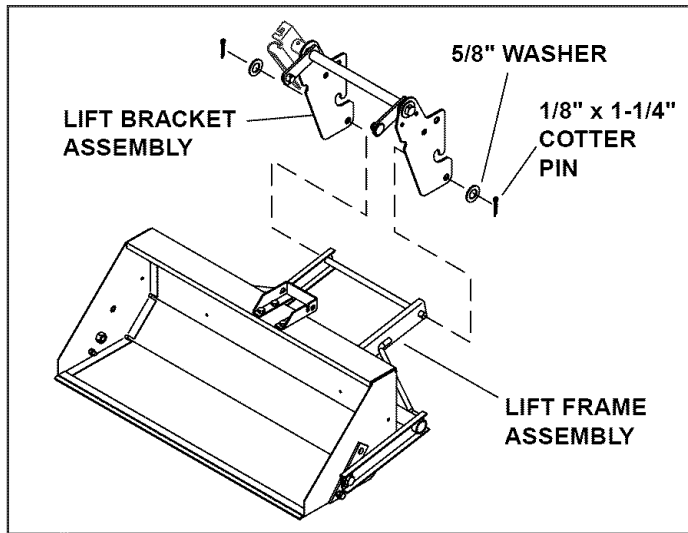

FIGURE 3
- Assemble the lift bracket assembly to the lift frame assembly using two 5/8" washers and 1/8" x 1-1/4" cotter pins. See figure 3.